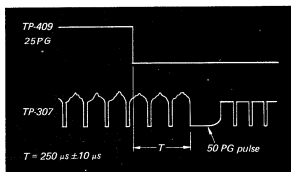

Fig. 7-13. Position of 50 PG pulse
3. Adjust R377 so that the phase between the leading edge of 50 PG and leading edge of the 25 PG pulse is 250  $\mu$ sec  $\pm$  10  $\mu$ sec. See Fig. 7-13.